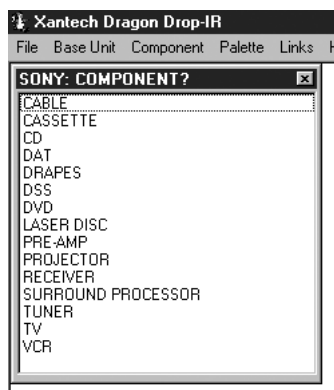

Figure 11 - Components
3. Locate and Select (single click) the type of COMPONENT as shown in **Figure 11** (DVD, SAT etc) (See later sections for adding types).